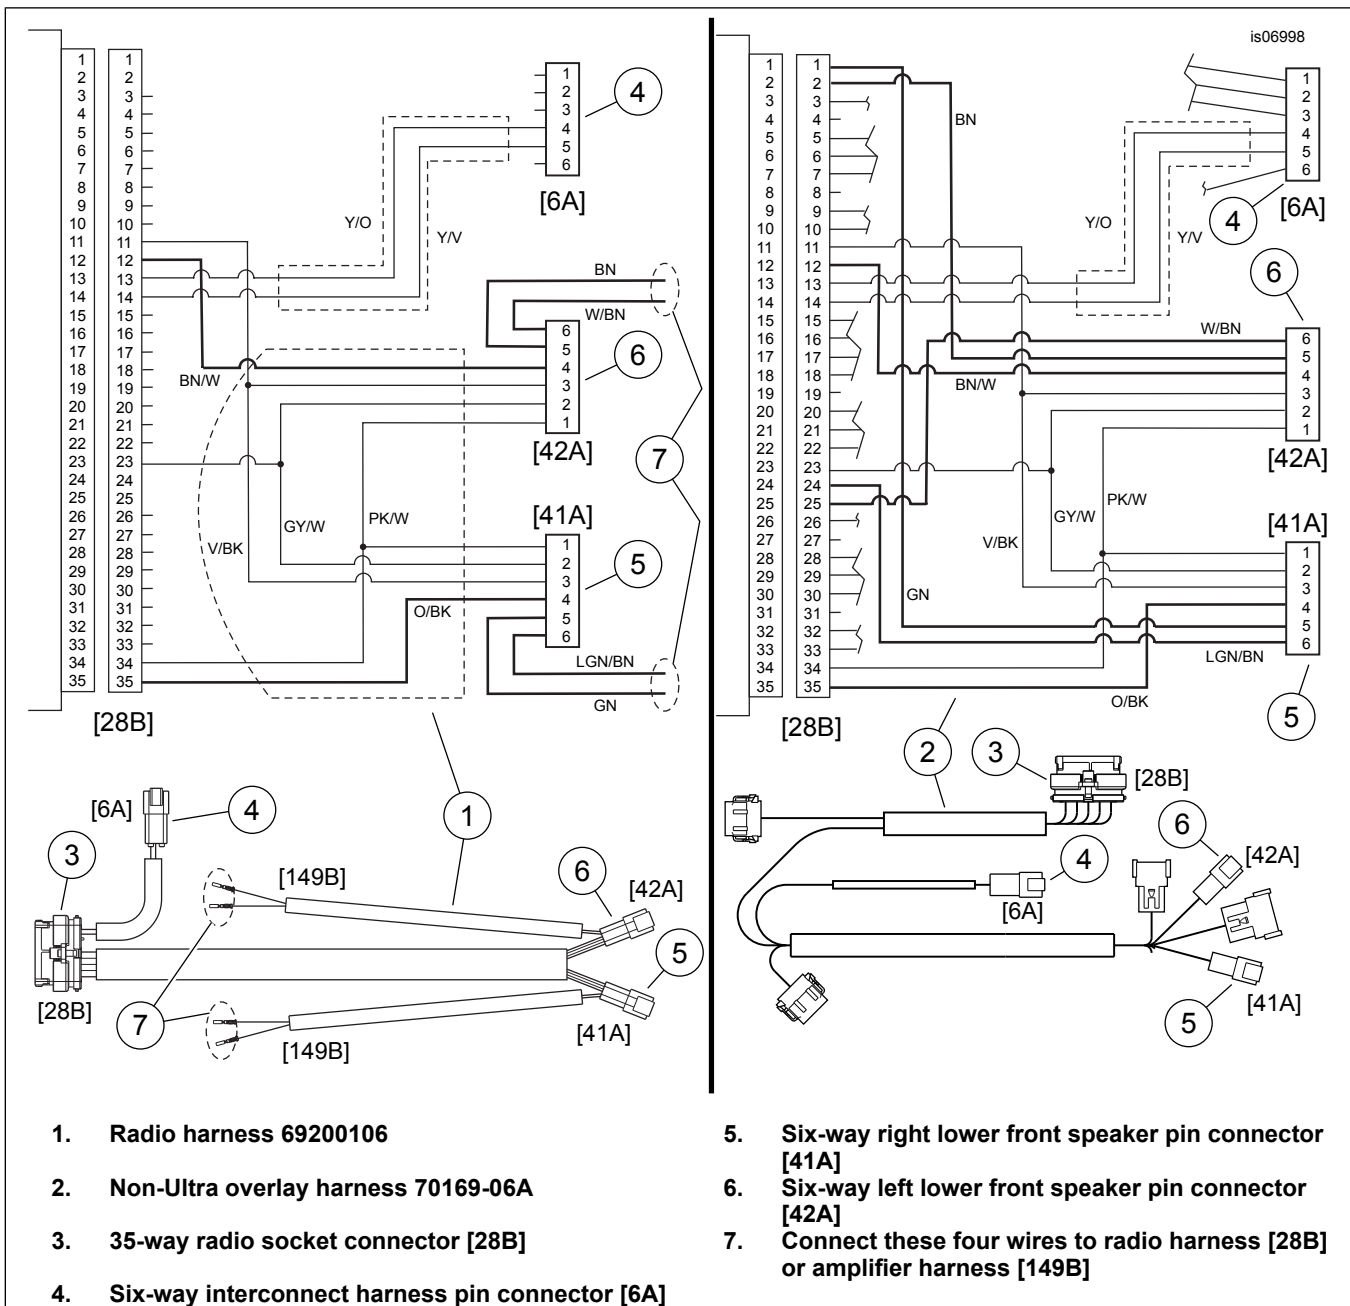

Figure 2. Radio Harness/Non-Ultra Overlay Harness Wiring Diagrams
1. See Figure 2. If not already done, plug the 35-way socket housing [28B] (3) from the radio harness (1) or non-Ultra overlay harness (2) into the back of the radio. Connect the six-way pin housing [6A] (4) to the vehicle interconnect harness. Secure with cable straps.